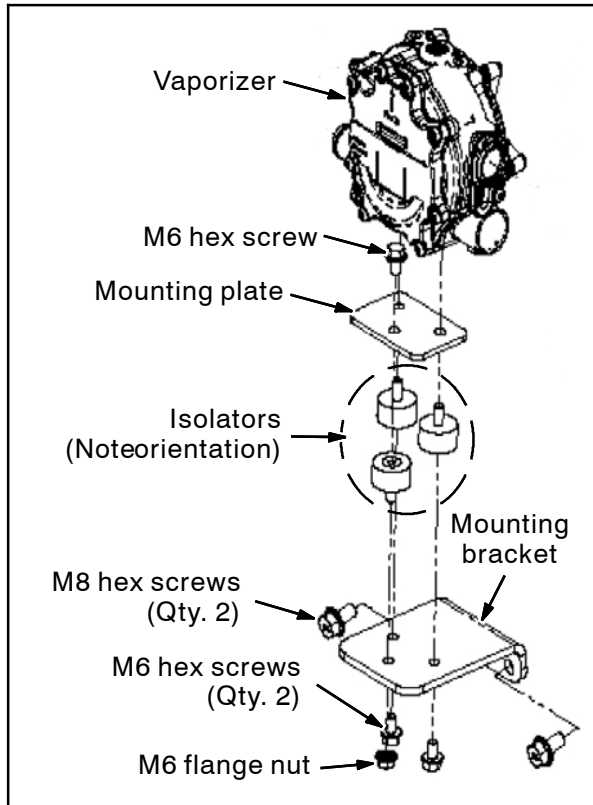

FIG. 7
5. Remove the vaporizer assembly from the machine. Set the two M8 hex nuts aside (Fig. 7)
6. Remove hardware securing the vaporizer / mounting plate to the mounting bracket. Set the mounting bracket and hardware aside. (Fig. 7)
7. Firmly secure the mounting plate attached to the vaporizer into a bench vise. (Fig. 7)
15. Install the mounting plate / isolators onto the vaporizer (1). (Fig. 7)
16. Install the vaporizer (1) / mounting plate onto the mounting bracket. (Fig. 7)
17. Install the vaporizer assembly onto the machine. (Fig. 7)